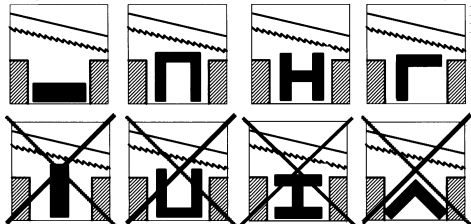

Abb. 11
4.5 KORREKTES ANBRINGEN DES WERKSTÜCKS IM SCHRAUBSTOCK (Abb.11)